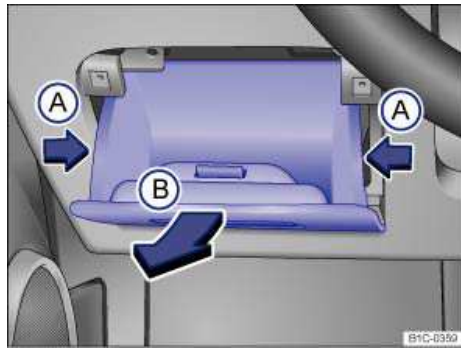

Fig. 169 On the driver side in the instrument panel: Storage compartment in front of the fuse box.
- Open the storage compartment ⇒ fig. 169, ⇒ *Storage areas*.
- Press the sides of the storage compartment in slightly ⇒ fig. 169 ((A) arrows) while pulling back firmly ((B) arrow).
- To **install**, guide the cover from the bottom into the instrument panel and push in the direction opposite to the arrow (B) until you hear the hinges click into place, then push forward until the cover latches firmly.